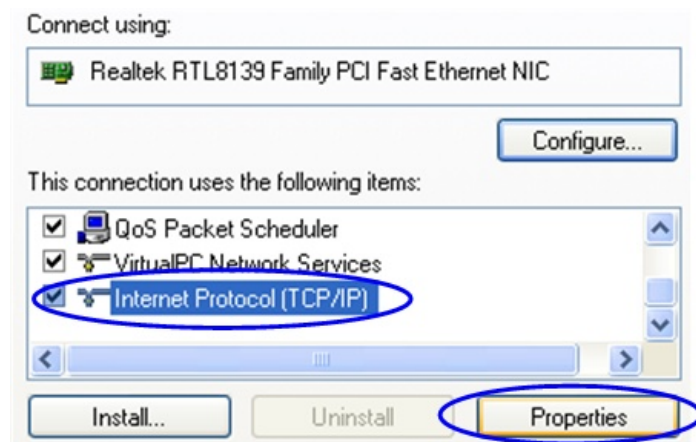

Figure 13. Internet Protocol Properties
4. Choose "Internet protocol (TCP/IP)" and click "Properties". See Figure 13.